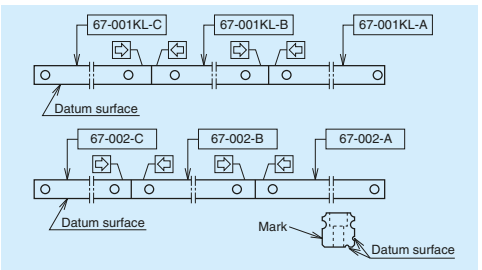

Fig. 10.25
- The rails with butting specification are marked with letters (A, B, C ...) and an arrow on the opposite side of the mounting datum surface. Use the letters and arrows for assembly order and direction of the rail (**Fig. 10.25**).